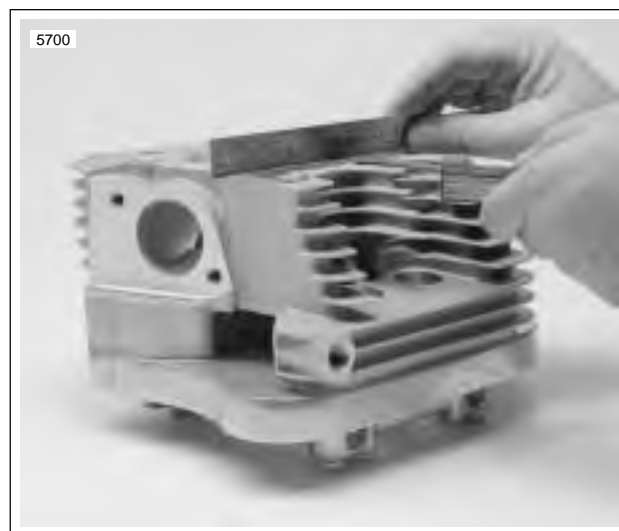

**Figure 3-16. Checking Spring Free Length**
17. See Figure 3-16. Check free length and compression force of each spring. Compare with SERVICE WEAR LIMITS. If spring length is shorter than specification or if spring compression force is below specification, replace spring.